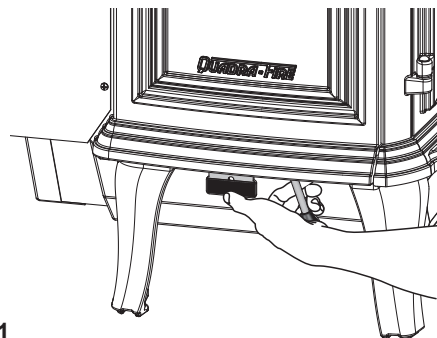

Figure 18.1
1. The appliance and ashes must be completely cooled down before using the Ash Removal System. Reach down and locate the ash removal door handle under the left side of the appliance in the center. Grasp the handle with your fingers and place your thumb on the latch release (**Figure 18.1**). Press the latch release inward. Keep the latch release pressed in and lower the handle gently. Take your thumb off the release once the handle is clear of the latch and guide the handle back until it stops.